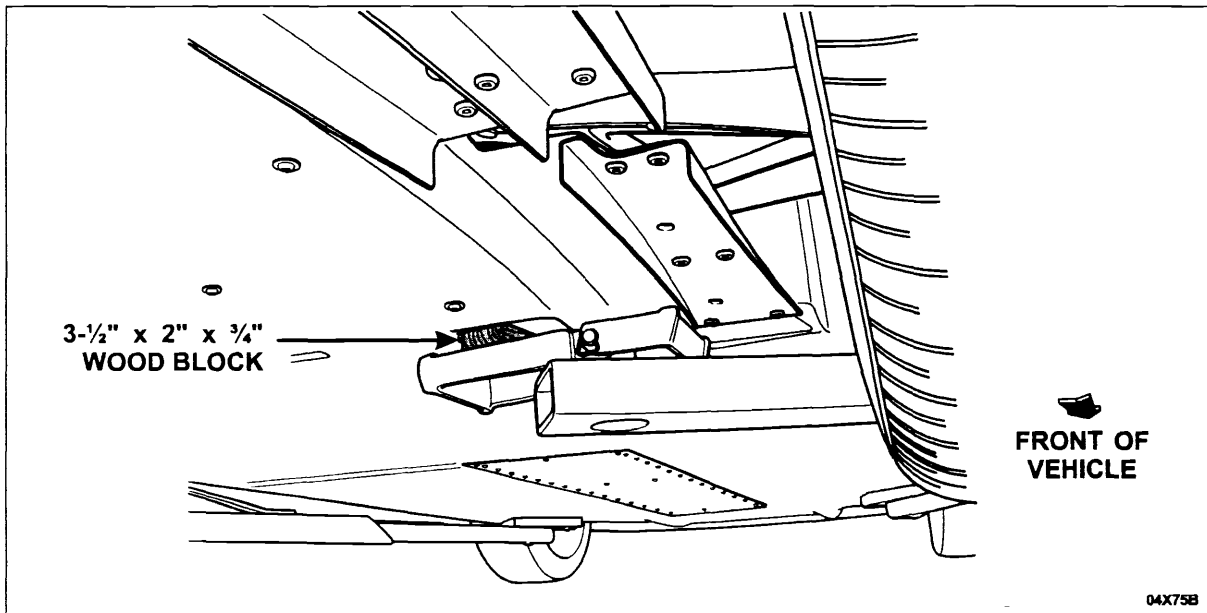

FIGURE 2
3. To avoid damage or marring of the underbody shields, position wood blocks measuring 3-1/2" x 2" x 3/4" on the rear hoist pads and either thick cloths, rubber pads or heavy cardboard on the front hoist pads. Be sure to properly position the hoist pads as indicated. See Figure 2.